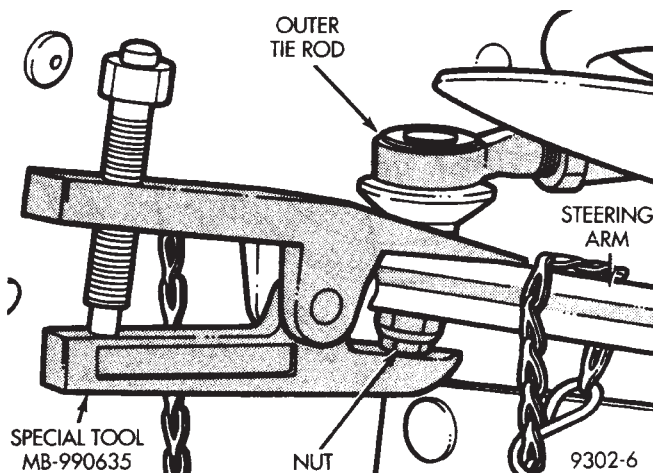

Fig. 2 Removing Outer Tie Rod From Steering Arm
(4) Loosen but do not remove outer tie rod to strut assembly steering arm attaching nut (Fig. 2). Then remove outer tie rod from steering arm using Puller, Special Tool MB-990635 of equivalent (Fig. 2).